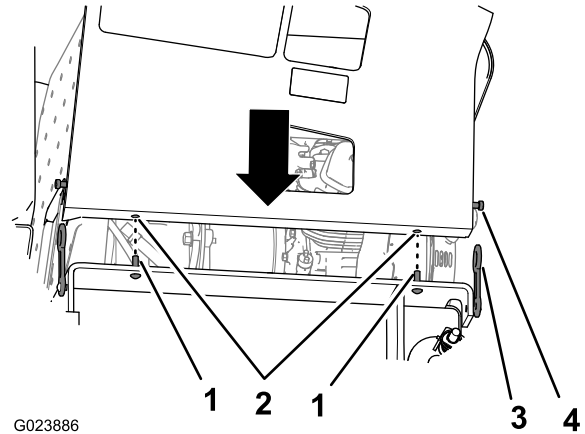

Figure 17
- Align the engine cowl over the machine (Figure 17).
- Carefully lower the cowl while aligning the guide pins in the chassis with the holes in the cowl (Figure 17).
- Secure the engine cowl to the chassis with the 4 latches on the chassis to the 4 latch posts on the cowl (Figure 17).